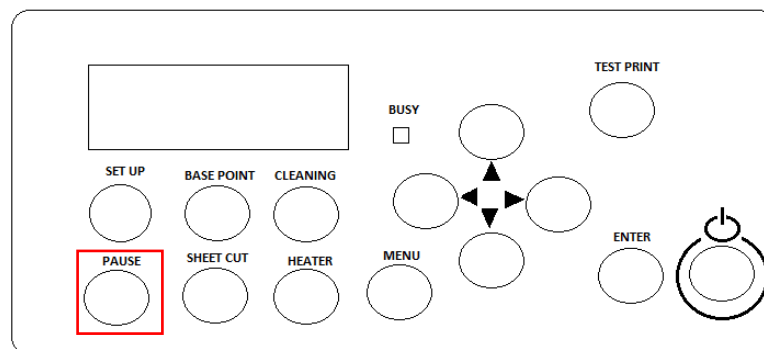

Fig 72: Selecting the Pause Command
Step 2: To cancel the printing process, press and hold the **SET UP** button from the **Control Panel** (Fig. 72). Now, the printing process gets cancelled.